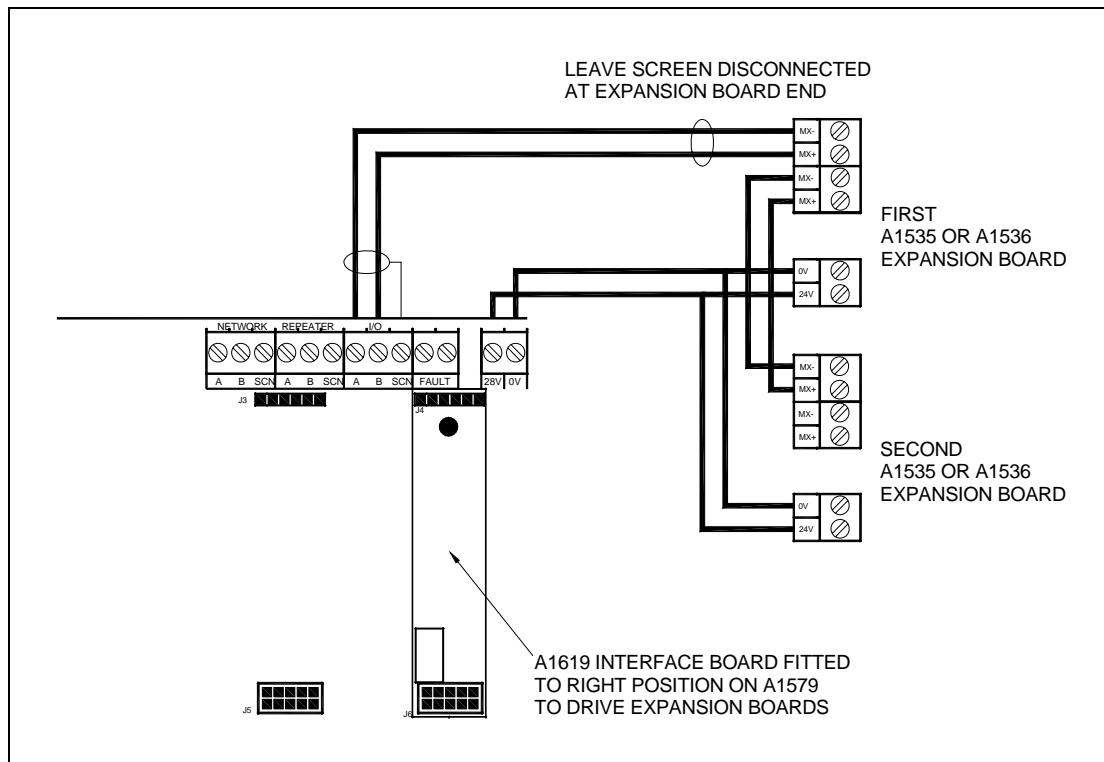

Figure 4 – Expansion board connection diagram
2. Connect the I/O interface RS485 wiring as shown in Figure 4.
3. If the I/O board is to be powered from the panel connect the 28V auxiliary output from the motherboard to the expansion board power input. This is also shown in Figure 4.